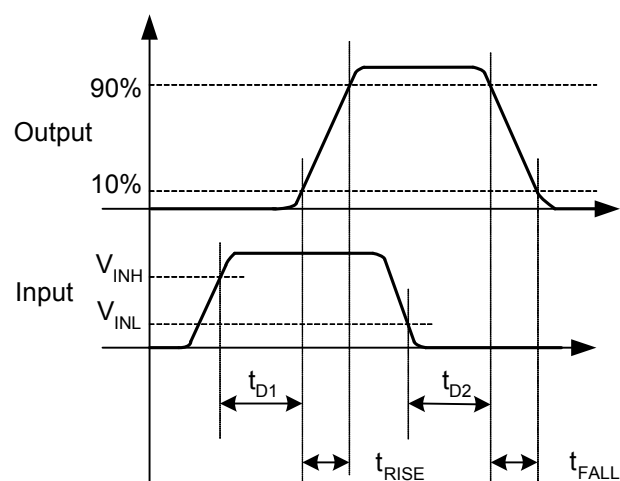
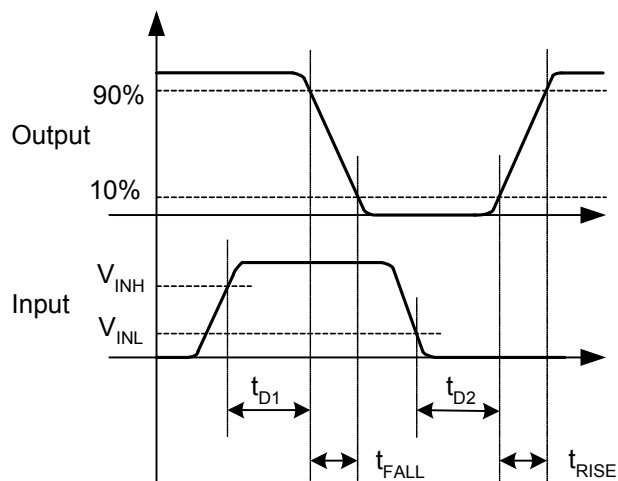

Figure 9. Non-Inverting (EN HIGH or Floating)
Figure 10. Inverting (EN HIGH or Floating)
12. See Timing Diagrams of Figure 9 and Figure 10.